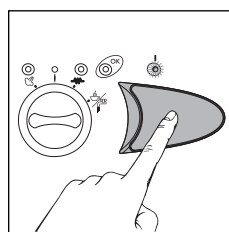

fig. 7
- Press the FILTER COFFEE ON/OFF switch (Fig. 7). The FILTER COFFEE ON light above the switch will come on to indicate that the filter coffee maker is working.